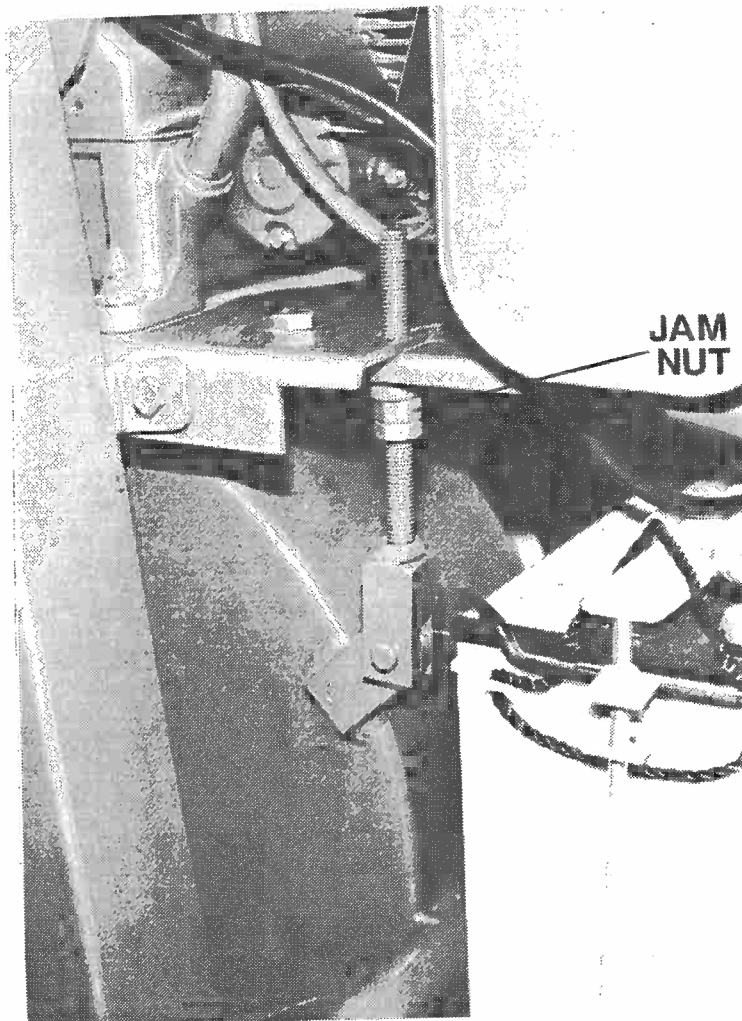

FIGURE 12
9. After 2 hours of operation check and tighten the V-belts as required. To tighten belts, adjust jam nuts under engine mount. Refer to Figure 12. **CAUTION:** Do not overtighten belts as damage will occur to belts and bearings. Belts that are too loose will shorten the life of the belts and sheaves. Re-check belt tension after eight hours and every 40 hours thereafter. When installing new belts do not attempt to stretch over sheaves. When replacing V-belts always use a "matched set".